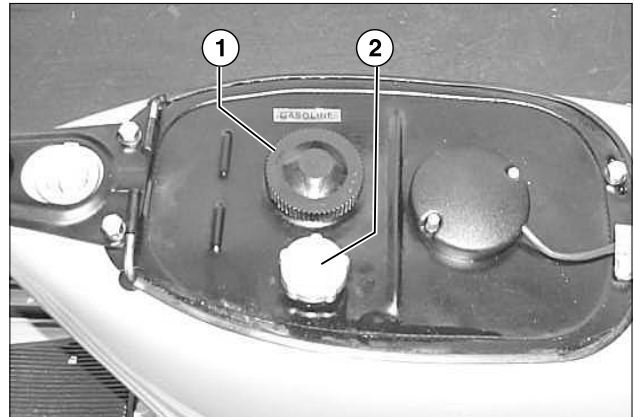

Fig. 78-Location of petrol tank & oil tank caps
- (a) LML Scooters are equipped with two separate tanks: No.1 for petrol and No.2 for oil.(fig.78).